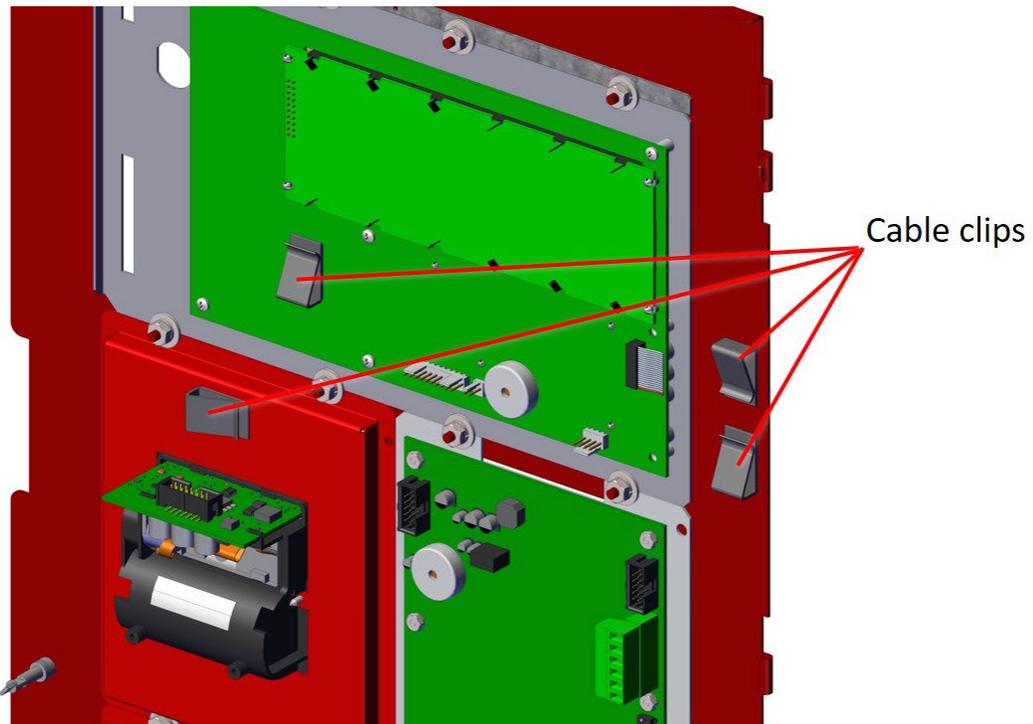

Figure 38 - NX10-EM-PRN Cable Clips
2. Remove the four (4) hex steel nuts, four (4) lock washers and four (4) regular washers (Figure 38).
1. Remove the preinstalled blank single aperture plate on the left side of the inner door by removing the four (4) hex steel nuts, lock washers and regular washers.
3. Install the regular washers, lock washers and hex steel nuts (Figure 38).